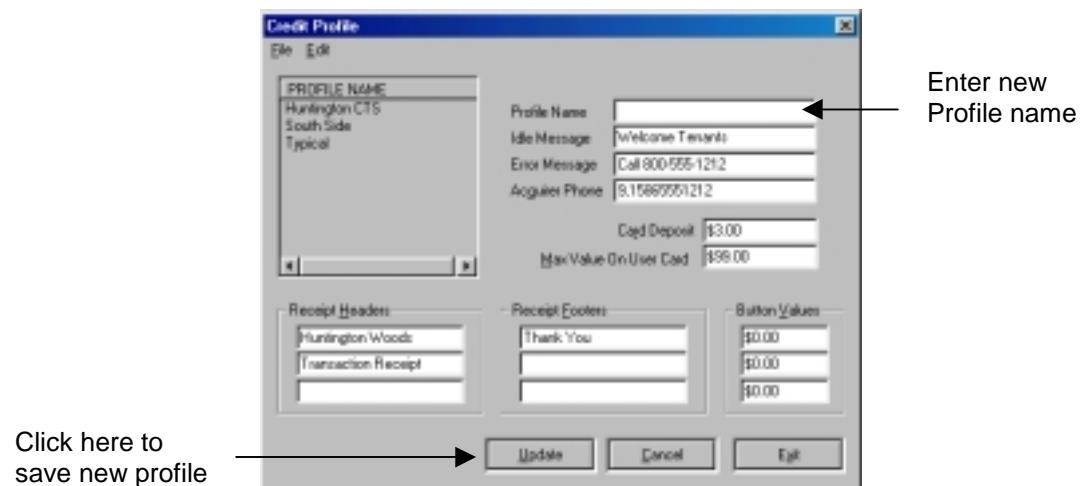

Figure 10.9 Completing the Cloning Process
4. Enter a new Profile Name (Figure 10.9).
5. Click the Update button to save the new profile record (Figure 10.9).